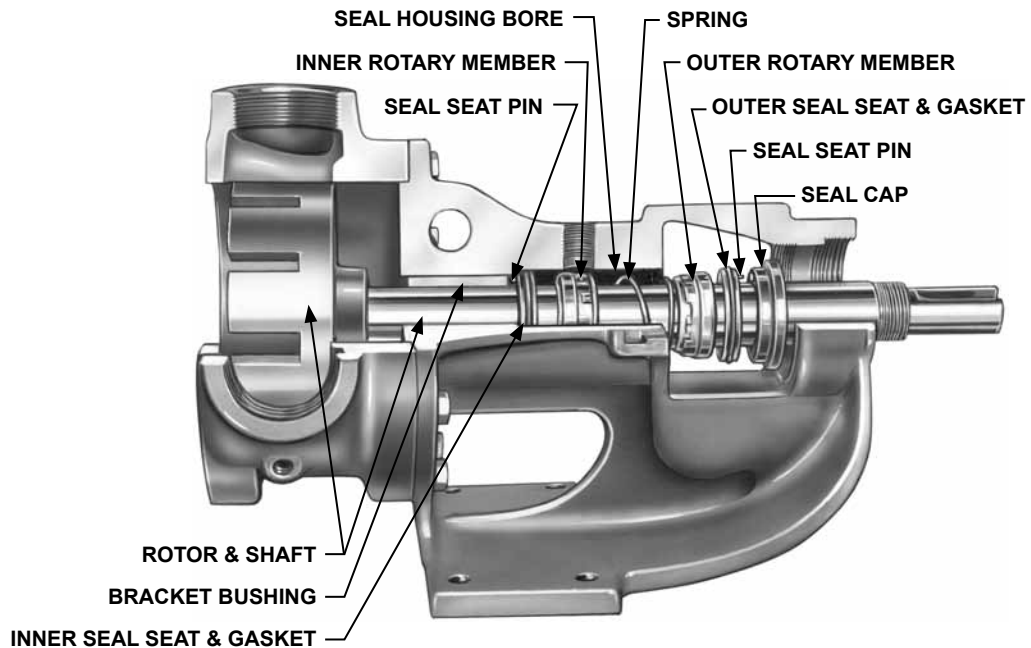

FIGURE 11
See figure 11. The mechanical seal consists of five basic parts. They are: inner and outer seal seats with O-ring gaskets; inner and outer rotary members; and spring. When pump is running the seal cap and inner and outer seal seats with O-ring gaskets remain stationary in the bracket seal housing bore; the inner and outer rotary members turn with the shaft.
1. Installing a new seal: The seal is simple to install and good performance will result if care is taken in installation, **see figure 11, page 9** for parts identification.
9. Clean and oil the I.D. of the inner rotary member, place on shaft and slide over the tapered installation sleeve into position against the inner seal seat. Push against the rubber tail section of the bellows with a sleeve or smooth piece of pipe having an inside diameter no more than $\frac{1}{32}$ inch larger than the shaft diameter and a wall thickness of at least $\frac{1}{8}$ inch. Be sure to install correct end against seal seat, **see figure 11, page 9**. Be sure carbon face does not fall out of the rotary member.
12. Coat the inside diameter of the outer rotary member with light Refrigeration Oil. Place it over the shaft and slide it far enough to engage the spring. Be sure to install the correct end towards the spring, **see figure 11, page 9**.